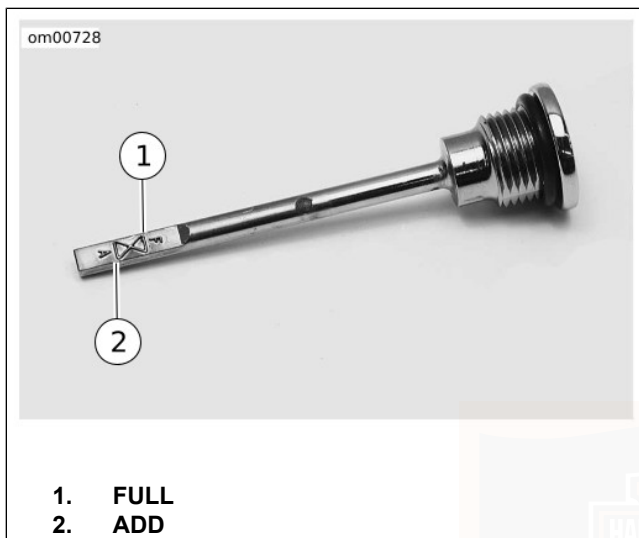

Figure 51. Transmission Filler Plug/Dipstick Lubricant Level
2. See Figure 51. Wipe off filler plug/dipstick. Place in filler hole and remove. (Dipstick should rest on lip of filler. Do not screw in.) Lubricant level should be between the full and low marks on the plug/dipstick when removed.